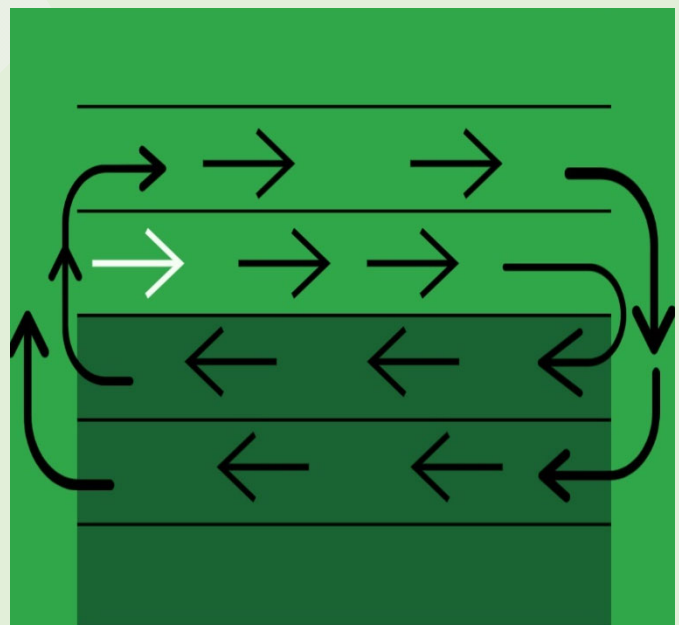

Figure 2: Round Pattern
- Step 4: Mow in a round pattern like the one in figure 2 below.